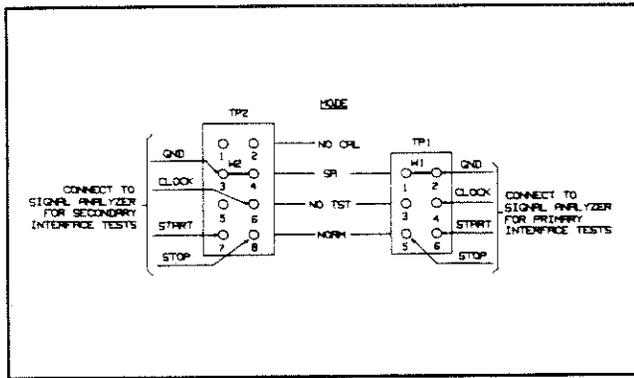

Figure 4-7. Test Header S.A. Connections
- b. Connect jumpers W1 and W2 in the SA positions of TP1 and TP2 and connect the CLOCK, START, STOP, and GND inputs to test header TP2 as shown in Figure 4-7.
- b. Connect jumpers W1 and W2 in the SA positions of TP1 and TP2 and connect the CLOCK, START, STOP, and GND analyzer inputs to test header TP2 as shown in Figure 4-7.